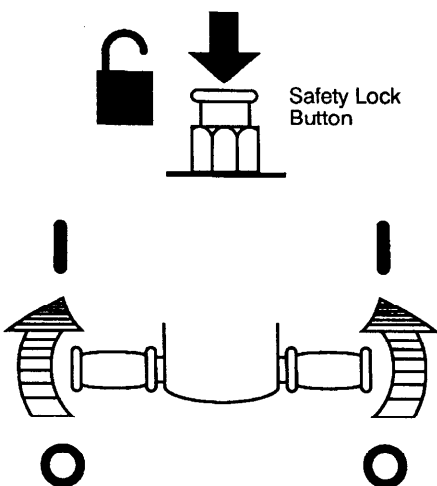

Fig. 4
4. Start machine by pressing safety lock button and turning twist grips forward. Release thumb from safety lock button once machine starts (Fig. 4).